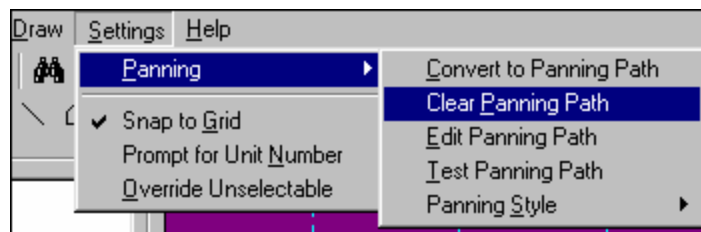

Figure 32
1. First select to 'Settings> Panning>Clear Panning Path' (Figure 32).